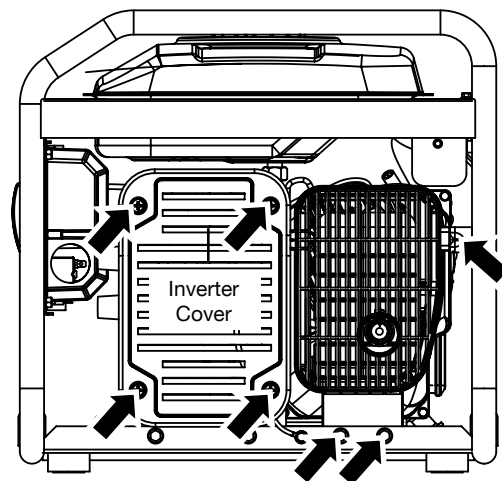

Figure 21: Remove screws holding muffler and inverter cover
3. Remove the screws holding the muffler cover as well as the screws holding the inverter cover (see Figure 21).